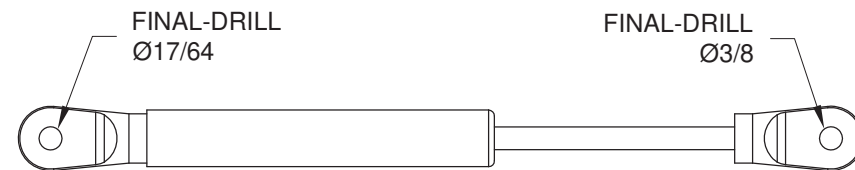

FIGURE 1: FINAL-DRILL GAS STRUTS
Step 1: Final-Drill both ends of the C-1216-1 Gas Struts as shown in Figure 1.